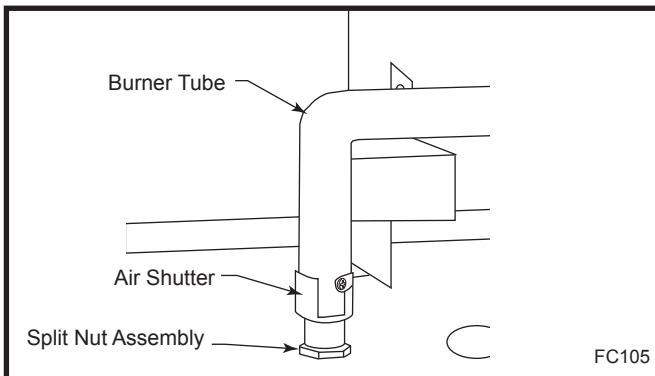

Fig. 49 Loosen split nut assembly from air shutter and remove burner tube.
2. With suitable tool, loosen the split nut assembly from the air shutter. (Fig. 49) Lift burner tube up and away.